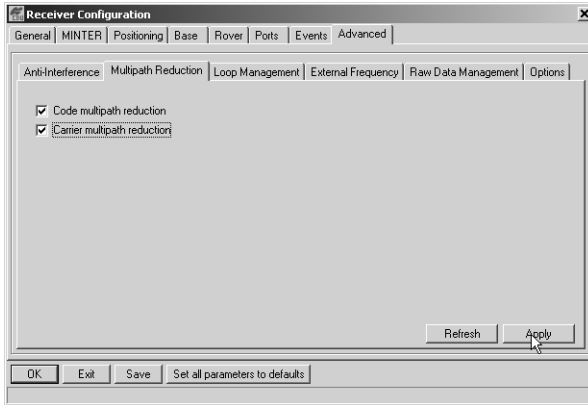

Figure 3-3. Advanced->Multipath
3. Click the **Advanced** tab and then the **Multipath** tab, set the following parameters, then click **Apply** (Figure 3-3 on page 3-8):